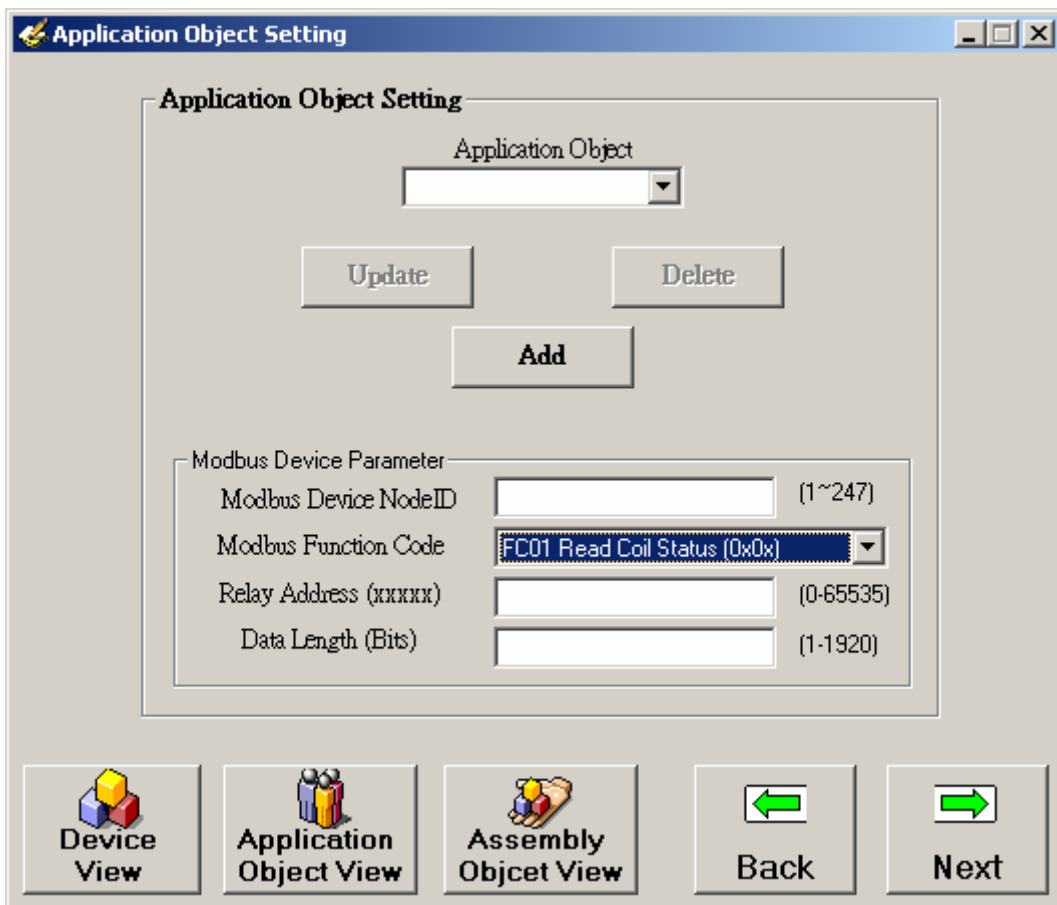

Figure 6-22. “Application Object Setting”
**Step 8:** Press the “Next” button, , to display the “Application Object Setting” frame as figure 6-22. Users can use the add button, erase button, update button or delete button to modify their Modbus devices parameters that they want to use to communicate.